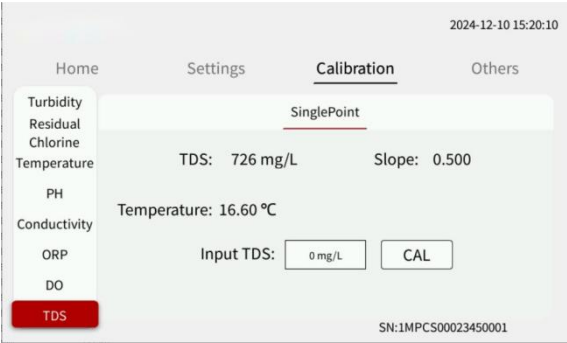

Fig.11 TDS Calibration diagram
- 3) Repeat step 2 twice, performing a total of three tests. If the test values do not vary significantly among the three tests, take the average value. If there is a large variation, possible reasons include: ① Significant changes in the water sample, wait for it to stabilize before testing again; ② The presence of abnormal values. Discard the test data and collect water for testing again.
- 4) Enter the average value of the water sample measured by the handheld device into the edit box, and click on "Calibrate" as shown in Fig.11.